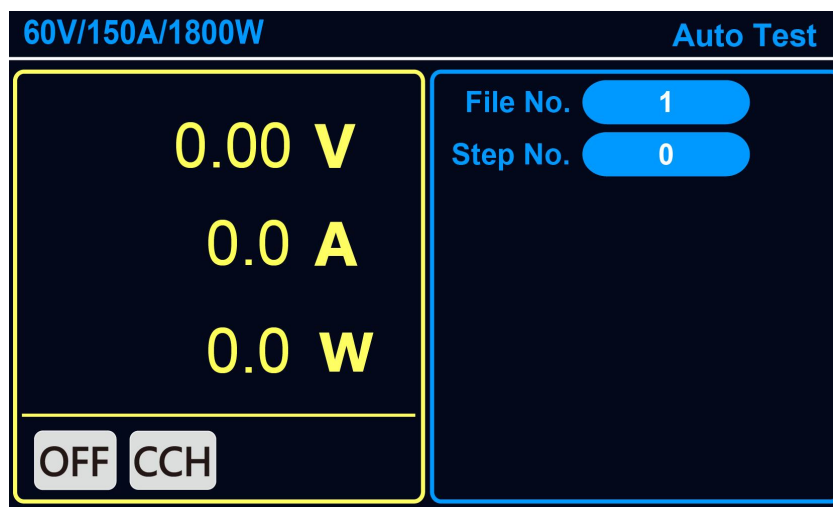

Figure 31 Auto test
4. Press the "On/Off" key to turn on, and the display state is "ON", observe the display reading, as shown in Figure 31.